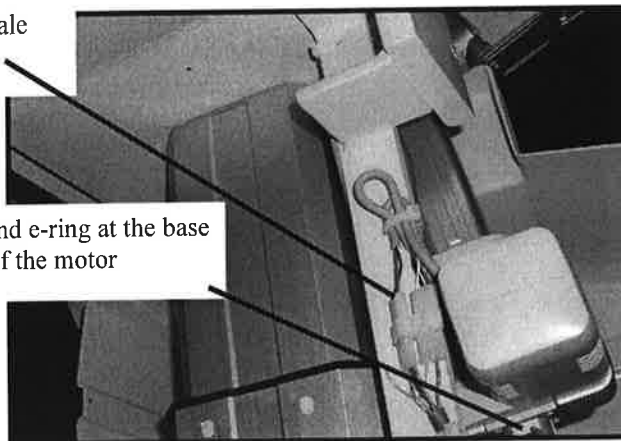

Figure 3
- 4) Remove one of the two E-rings on the 1/2" clevis pins holding the actuator at the base end of the motor, (figure 3). Remove the motor end pin supporting the motor at the same time. A hammer and soft metal rod may be needed to drive the pin out. Remove the motor from the mounting clevis. Reverse the process to install the replacement motor, using new cable ties.